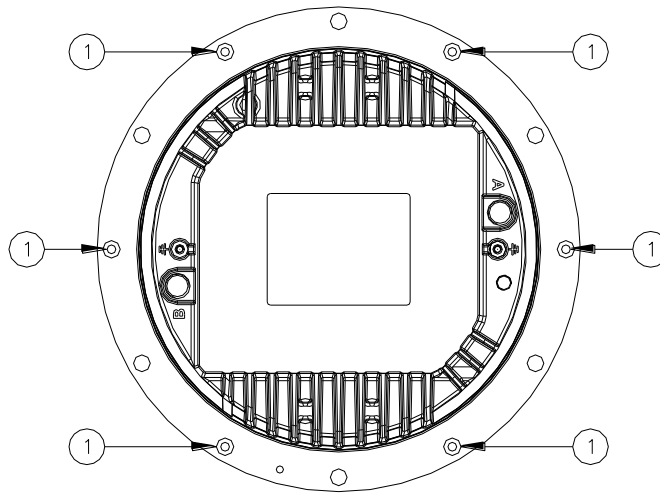

Figure 16 - Lower Cover Fixing Screws
- Open the fixture by unscrewing the six locking screws flat CSS TORX M5x10 (Figure 16 - n°1).
- six locking screws flat CSS TORX M5x10 (Figure 16 - n°1);
Verify the correct position of the two O-Ring between dome and lower cover (Figure 18 – n°2 and 3); mount the lower cover on the dome and fasten it by means the six screws flat CSS TORX M5x10 (Figure 16 - n°1). One drop of anaerobic adhesive lower type (e.g. LOXEAL 24-18) should be applied to the screws before installation; tightening torque is 2.5 Nm.